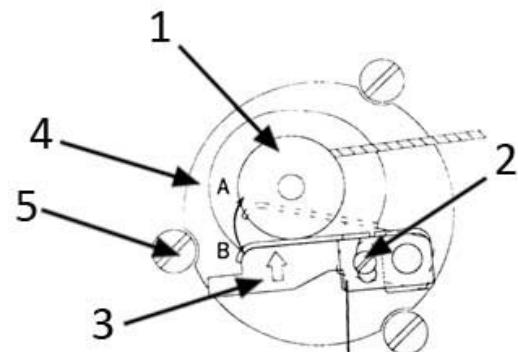
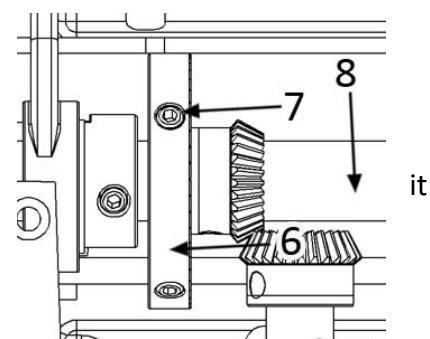

Fig. 41
Fig. 42
Setting amount of wound thread (fig. 41)
- A. Remove 3 screws (5) - fig. 41, and take out the bobbin winder (4), reaching access to the driving wheel (6), fig. 42.
- B. Loosen screws (7) and set the wheel (6) by moving on the main shaft (8) until it is in the required contact with the driving ring of the winder (4).